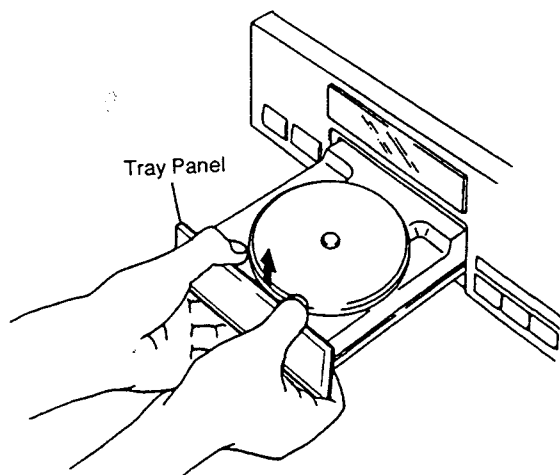
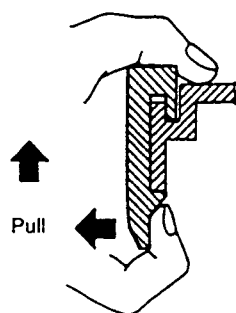

Fig. 1
Fig. 2
- 1 Use nippers or other tool to cut the two sections marked (A) in figure 1. Then remove the spacer.
Hold the tray panel with your hands as shown in Fig. 1, and grasp the tray with your thumbs and then lift the tray panel up while pulling it toward you with the other fingers. (Fig. 2)